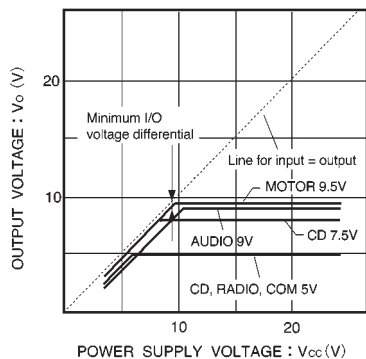

Fig.4 Output voltage vs. power supply voltage
* Minimum I/O voltage differential refers to the difference between input and output voltage when V_{CC} is set to the minimum output voltage (see the relationship between V_{CC} and each output on a separate page Fig. 4).